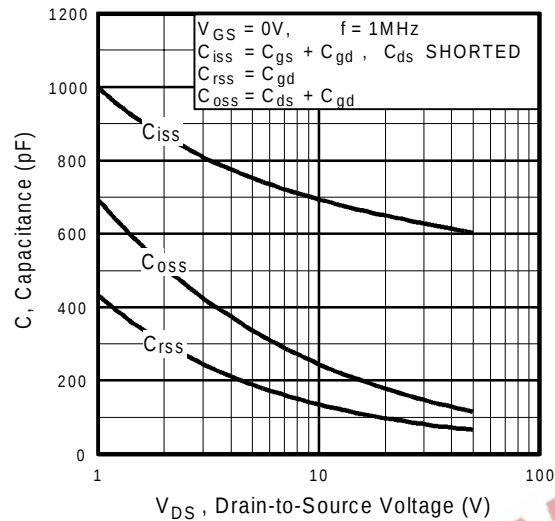

Fig 5. Typical Capacitance Vs. Drain-to-Source Voltage
| $C_{rss}$                       | Reverse Transfer Capacitance         | —    | 88   | —     |                     | $f = 1.0MHz$ , See Fig. 5 ⑥                                                   |